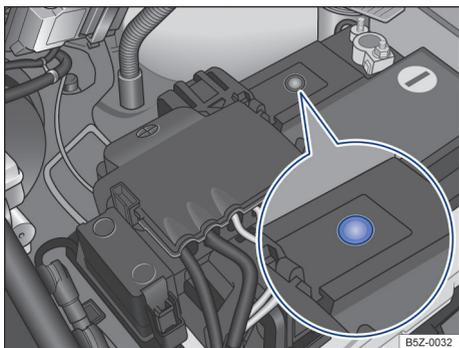

Fig. 159 On the engine compartment: example of display position on the upper side of the vehicle battery.
- The round display → Fig. 159 on the top side of the vehicle battery changes its colour according to the electrolyte level.